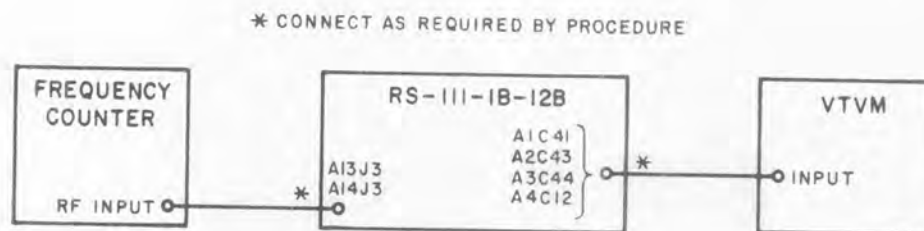

Figure 4-20. Test Setup, Tuner Oscillator Stage Alignment
- (1) Check the tuning drive for correct mechanical adjustment according to the instructions given in paragraph 4.7.1.1.
- (2) Connect the equipment as shown in Figure 4-20 with the counter connected to A13J3.
- (1) Check the tuning drive for correct mechanical adjustment according to the instructions given in paragraph 4.7.1.2.
- (2) Connect the equipment as shown in Figure 4-20.
- (3) Set the receiver controls as follows:
- (4) Set the dial to 100. 200
- (5) Adjust C29 for a reading of 121.40 on the frequency counter. If this is not possible continue to step (6).
- (6) Set the tuner dial to 60.
- (7) Adjust the turns spacing of L9 for a reading of 81.40 mc on the frequency counter.
- (8) Set the tuner dial to 100.